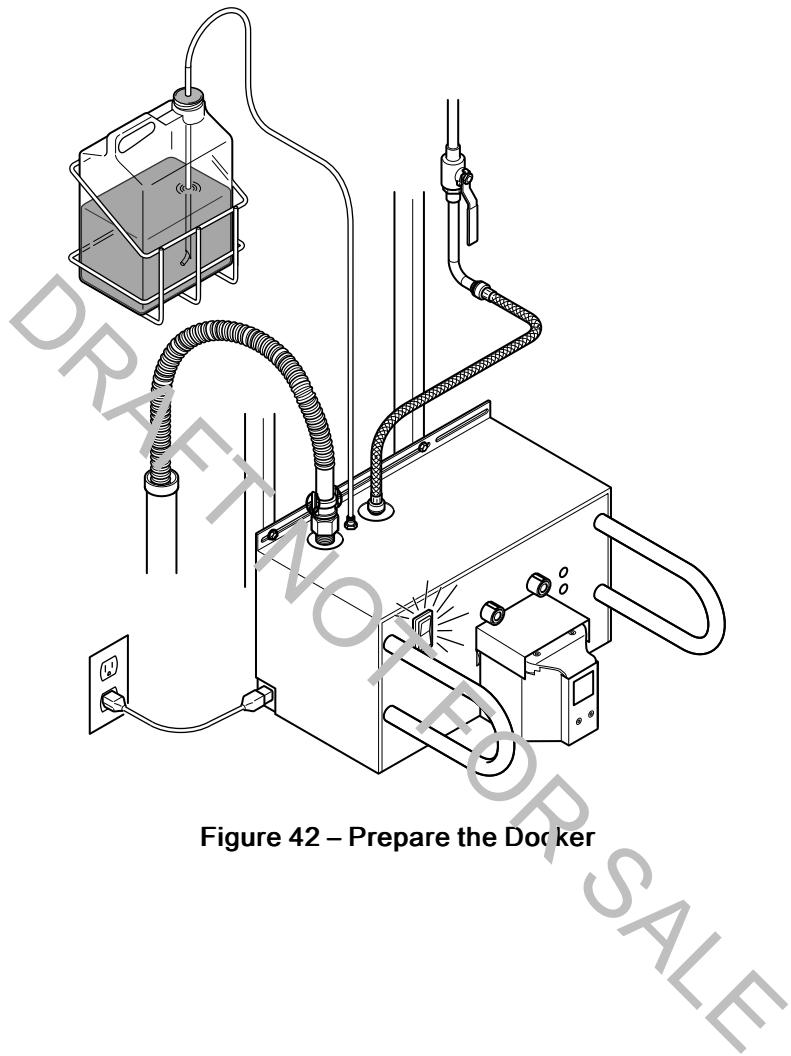

Figure 42 – Prepare the Docker
1. Make sure the docker power switch is in the ON position and illuminated (Figure 42).